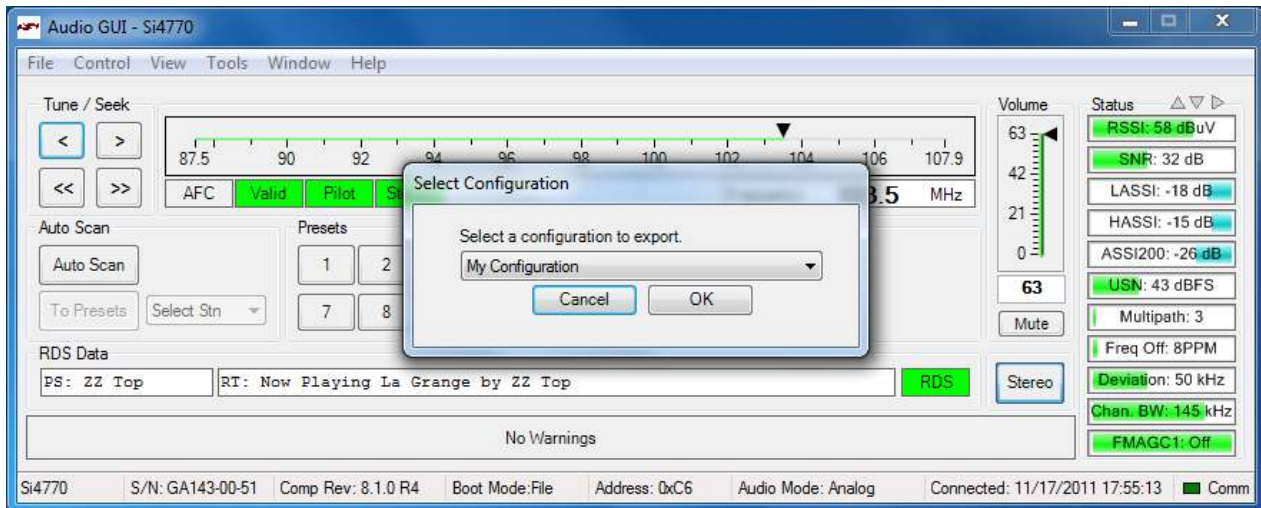

Figure 17. Selecting Configuration State to Export
2. Click on Export Saved State and the Select Configuration to Export window will pop up as shown in Figure 17.